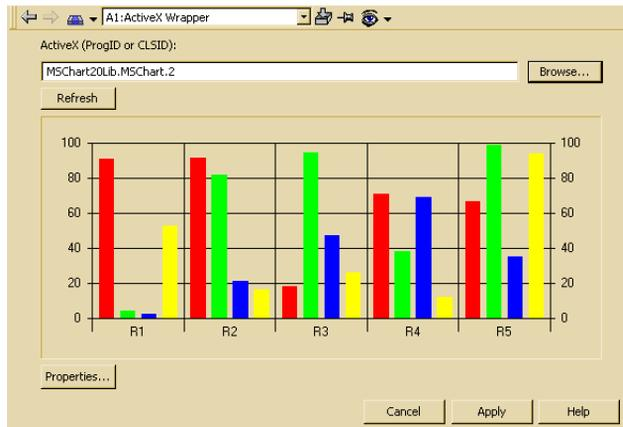

Figure 300. ActiveX Wrapper Aspect Dialog Box Showing a Preview of the Chart
- A preview of the chart in the dialog box that pops up, see Figure 300.